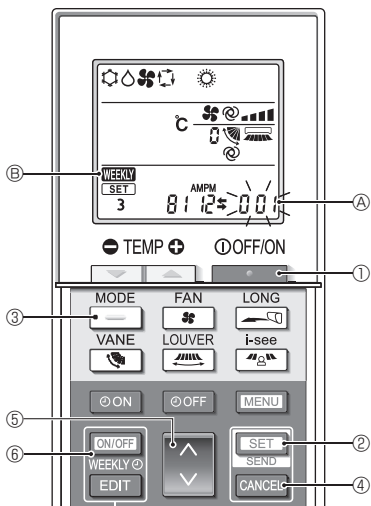

Fig. 5-12
- Press the **MENU** button ②.
5.12.8. How to disable Auto mode operation (Fig. 5-12)
1. Press the **STOP** button ① to stop the air conditioner.
2. If the weekly timer is enabled, press the **ON/OFF WEEKLY** button ⑥ to disable the timer. (**WEEKLY** ③ disappears.)
3. Press the **SET** button ② for 5 seconds.
4. The unit enters the function setting mode. (The group model setting number ④ blinks.)
5. Press the **UP** button ④.
7. Completing the settings (Fig. 5-12)
8. Press the **SET** button ② for 5 seconds.